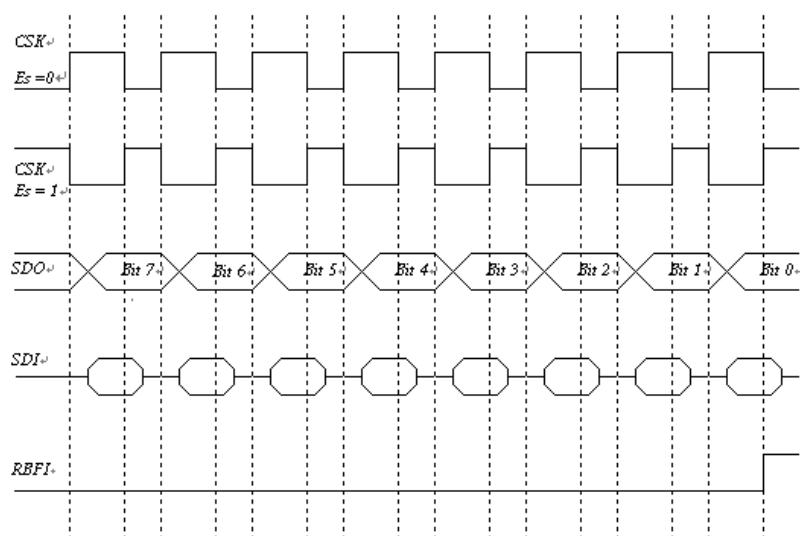
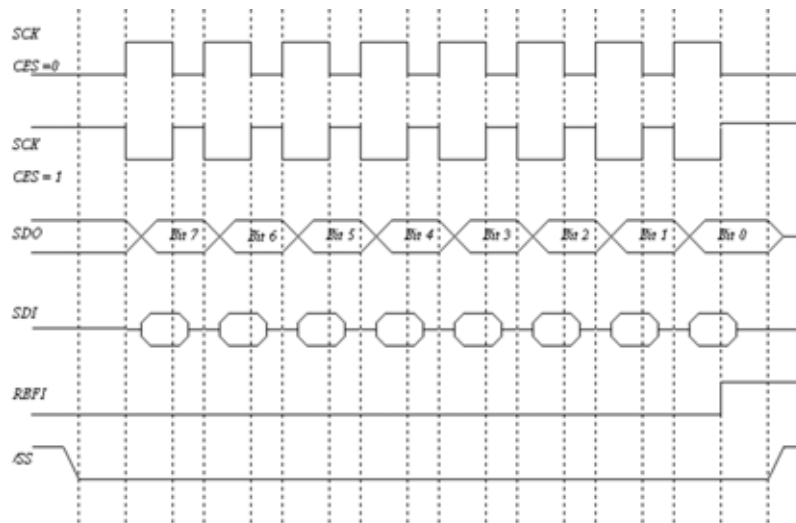

Fig. 13 SPI Mode with /SS Disable
Fig. 14 SPI Mode with /SS Enable
- Timing is shown in Fig.13 and 14.
- Timing is show in Fig.13 and 14
- Timing is shown in Fig.13 and Fig. 14.
The edge of SCK is selected by programming bit CES. The waveform shown in Fig.13 is applicable regardless of whether the EM78P451S is under master or slave mode with /SS disabled. However, The waveform in Fig. 14 can only be implemented in slave mode with /SS enabled.